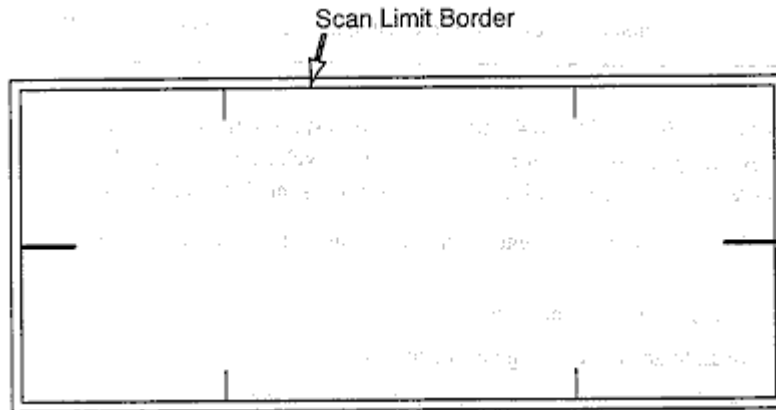

Figure 3-3. Scan table mattress (top view)
- Make sure that the SP's body is entirely within the scan limit borders on the pad. (See Figure 3-3.)